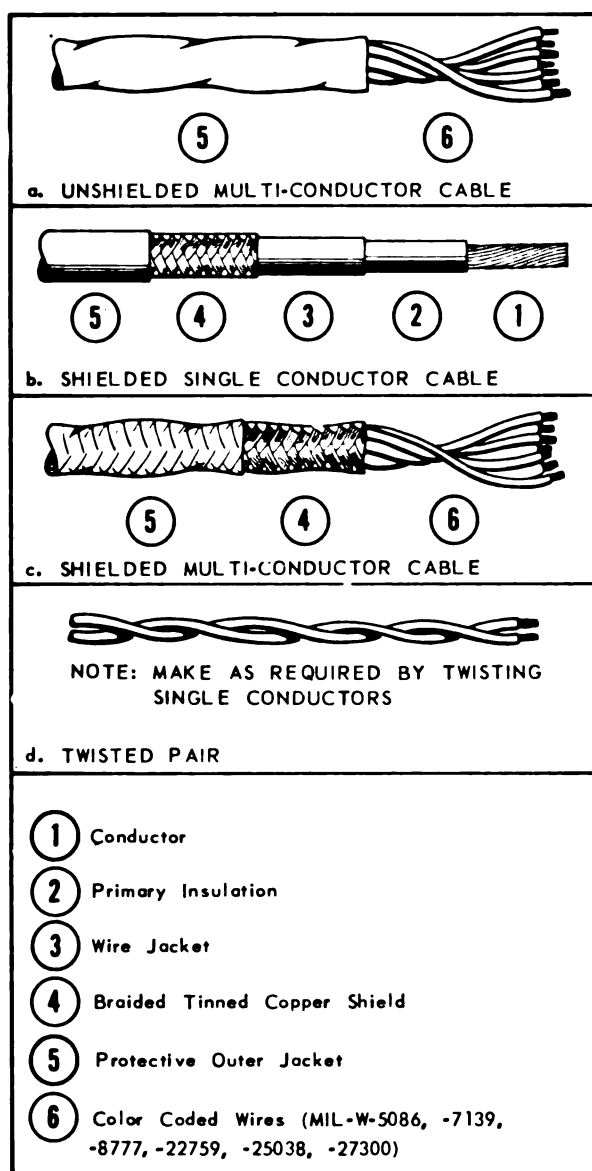

Figure 2-2. Cables Commonly Used in Aircraft
b. Cable. See figure 2-2. The term cable, as used in aircraft electrical installations includes the following: